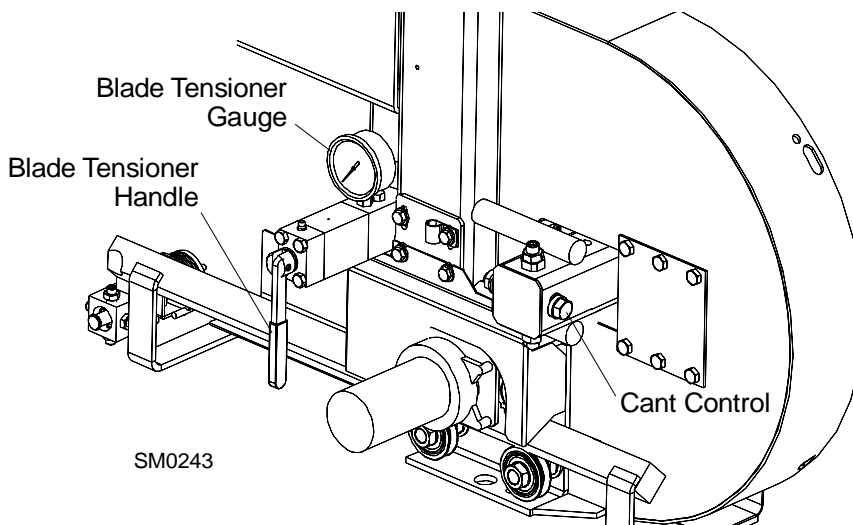

FIG. 2-5
See Figure 2-5. Tension the blade by turning the hydraulic tensioning handle clockwise until the tension gauge indicates the recommended tension.
4. To adjust where the blade travels on the blade wheels, use the cant control shown in **Figure 2-5**.